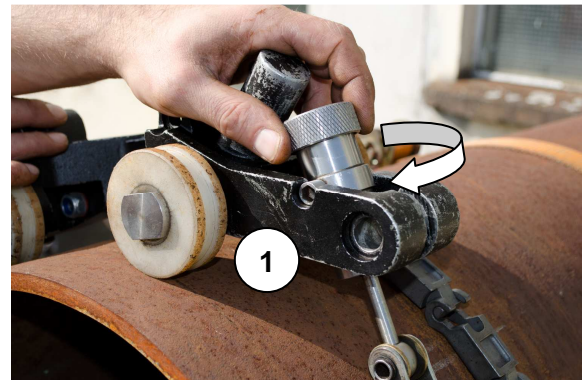
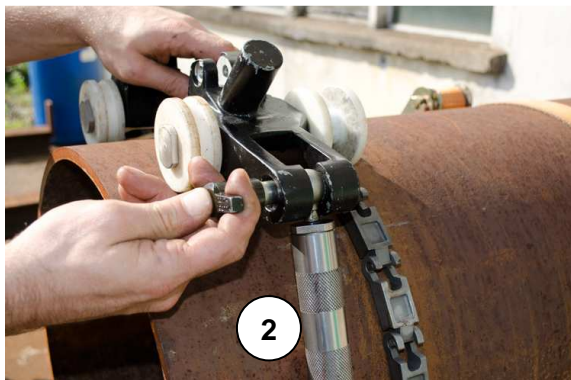
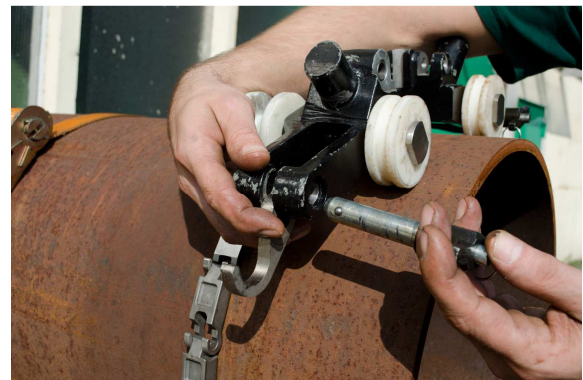

Fig. 3.2
Fig. 3.3
Fig. 3.4
- Fit the chain tensioner into the recess provided for this purpose (see fig. 3.2 resp. fig. 3.3). Put the tensioning chain around the pipe and adjust it to the guide carriage (see fig. 3.4 - 3.6). Tighten the chain tensioner until the guide carriage can hardly be moved (see fig. 3.2 respectively fig. 3.7).